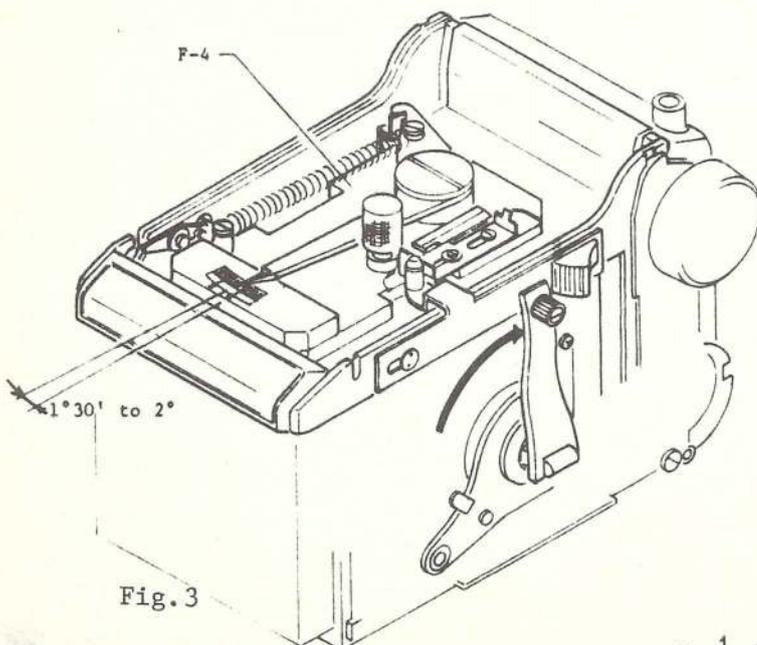

Fig.3
- b) Hand of the gauge indicate 1'30" to 2'00". (Fig. 3)